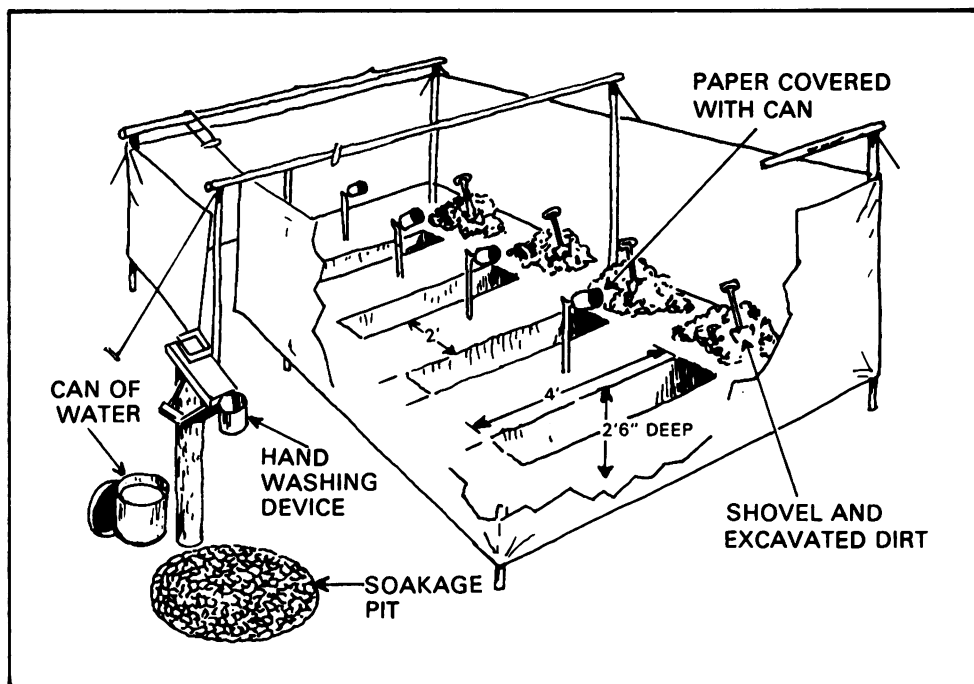

Figure 2.
b. For overnight bivouac, the straddle trench is used (figure 2). Construction requirements are found in FM 21-10, paragraph 76.